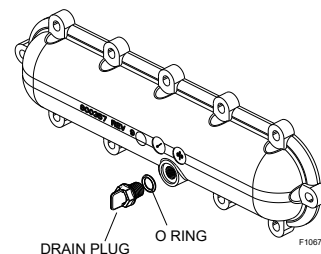
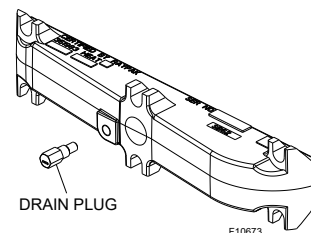

Figure 72. Return Header Drain Plug - Residential ("P" Prefix Model)
Figure 73. Return Header Drain Valve - Commercial ("B" Prefix Model)
2. Remove the ProTek Shield™ Assembly (if attached). Remove the heat exchanger inspection panel on the side opposite water piping to gain access to the drain plug on the return header. Open drain plug on return header. See **Figure 72** and **Figure 73**.